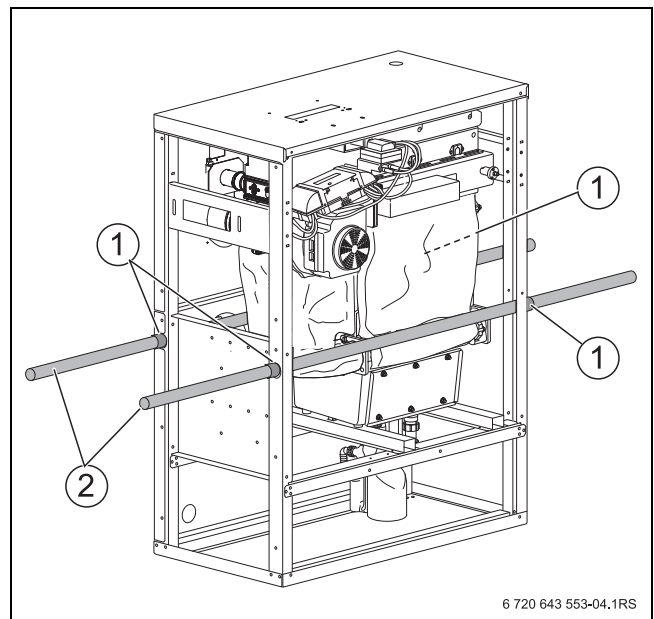

Fig. 5 Transporting the boiler using pipes
- ▶ Secure the pipes against slipping at the points [1] shown in Fig. 5, e.g. with adhesive tape.